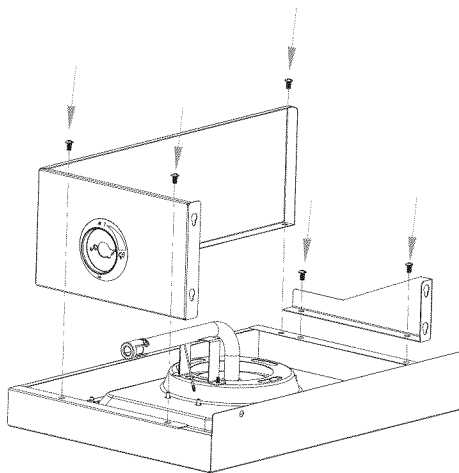

Fig. 10a
1. Attach right-side shelf support and right-side shelf wall to the right-side shelf with five (5) M5 x 10 screws from up to down as shown in **Fig. 10a**.